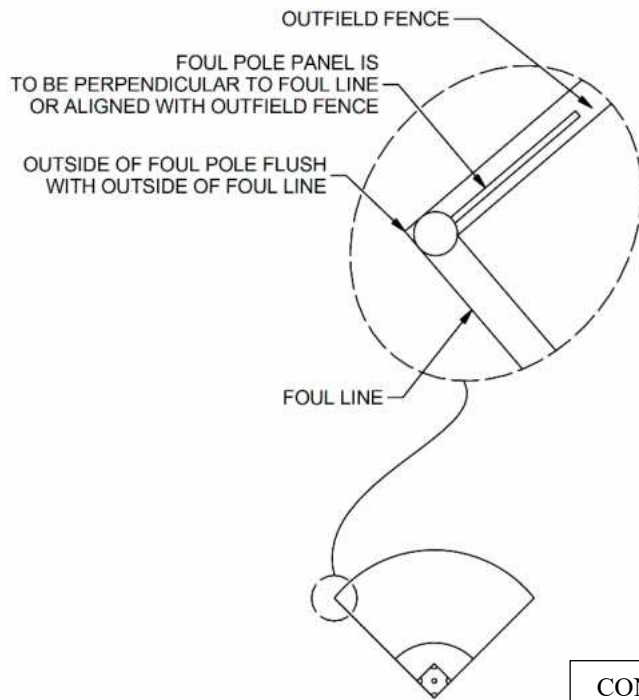

FIGURE: 1
1. Determine the proper location for the foul poles on the playing field, see figure 1.
Important: Carefully align the wing panel mounting holes in accordance with Figure 1.